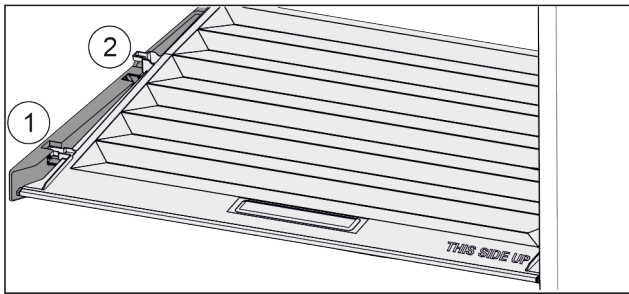

Fig. 26
- ▶ Pull the lid up at the front to the opening in the retaining parts Fig. 26 (1).
- ▶ Lift from the back and pull it up and out Fig. 26 (2).